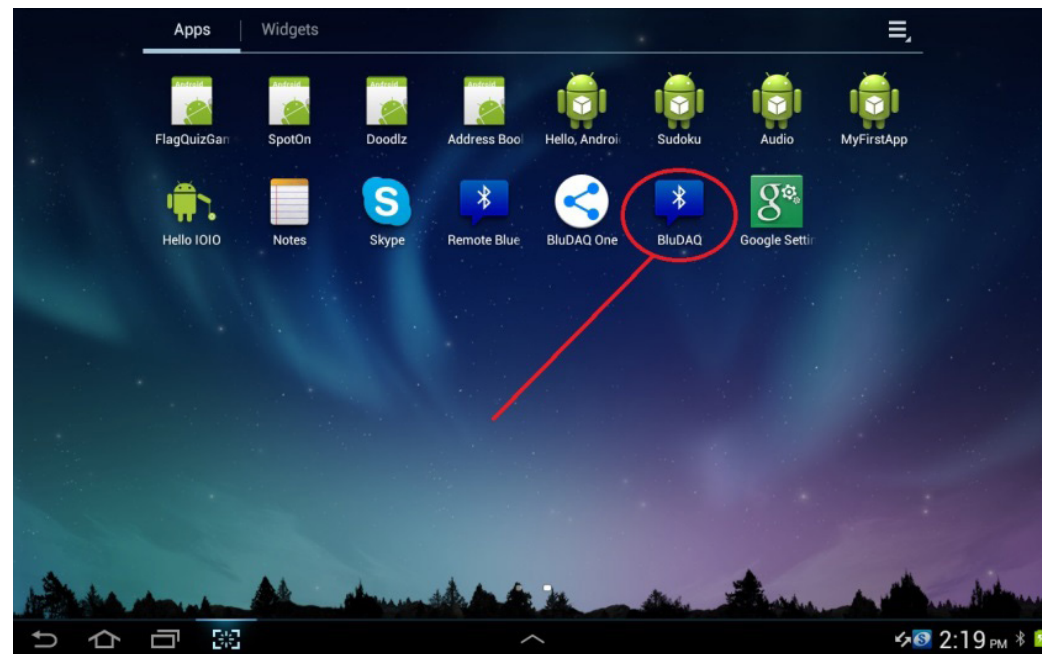

Figure 1
14. Turn on the Android tablet and start the BLUDAQ® app by tapping on the icon seen in Figure 1 in the Apps category. Access to the Apps category may be different for each Android tablet